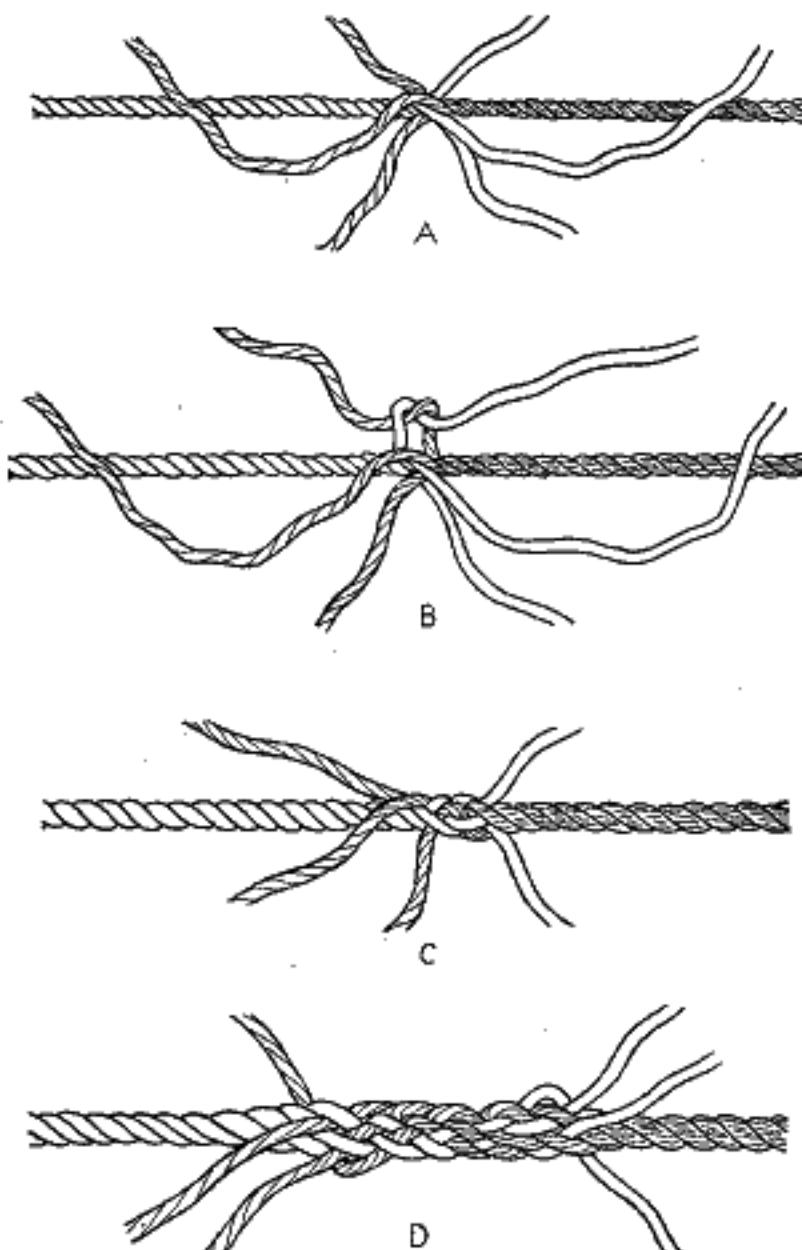

FIG. 347.—The short splice.
3. Tie each strand from one rope with the corresponding strand from the other rope, using a simple overhand knot. When all three strands are thus tied, draw them all up even and tight (see Fig. 347).